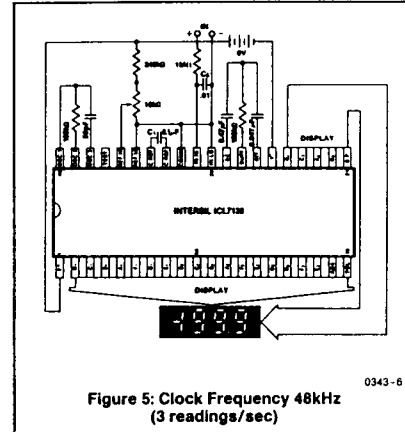

Figure 5: Clock Frequency 48kHz (3 readings/sec)
6. 48kHz oscillator, Figure 5, increases current by 20 μA (typ).